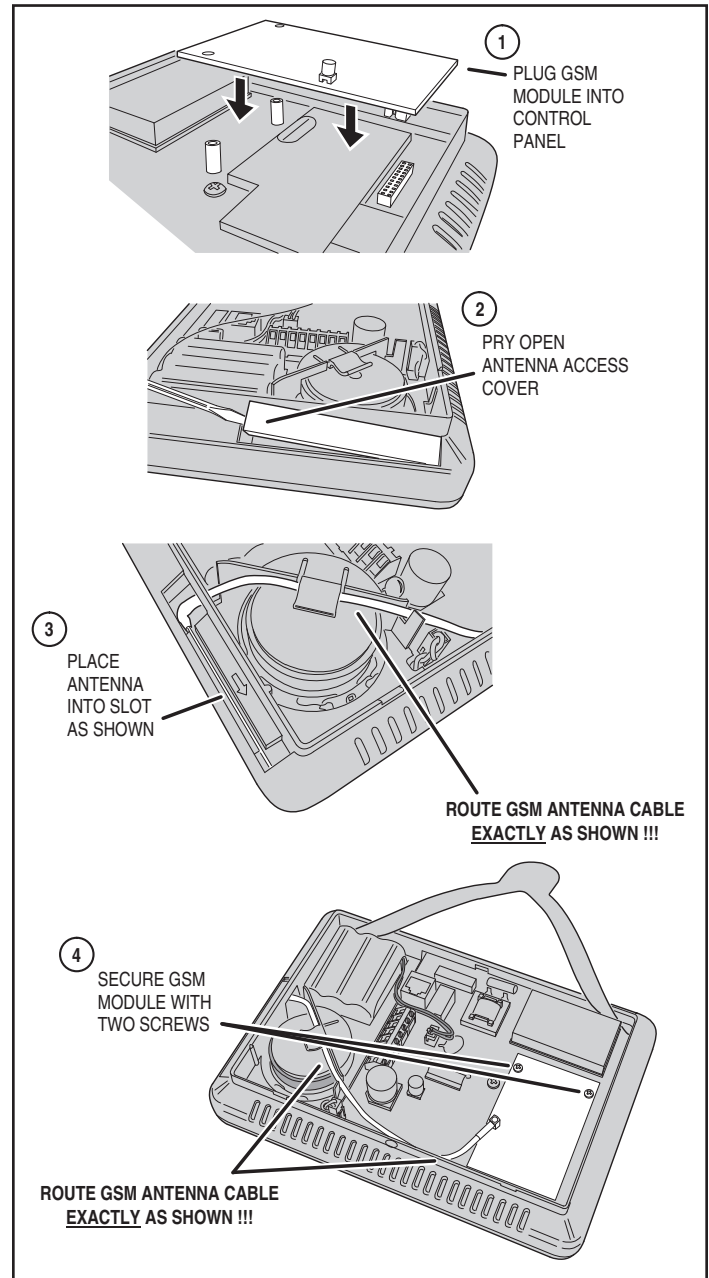

Figure 13. Optional GSM Module Installation
- 2A. If using the Model 2GIG-ANT1 internal antenna, remove the antenna access cover. Route the antenna lead through the opening in the case and place the flat antenna into the slot. Route the antenna wire under the clip behind the speaker and plug the antenna connector into the GSM module. Replace the antenna access cover. See Figure 13.